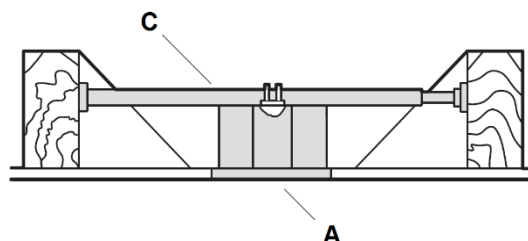

Fig. 5
To hang your fan where there is an existing fixture but no ceiling joist, you may need an installation hanger bar (C) as shown in **Fig.5**. Make sure the hanger bar you purchase has been designed for use with ceiling fans.